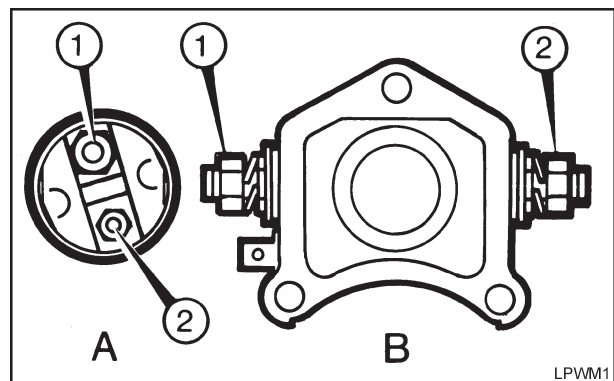

Figure 2.7.3 Starter Motor Terminals
4. Replace the cable loom connections in the positions as shown in 'Figure 2.7.3'.